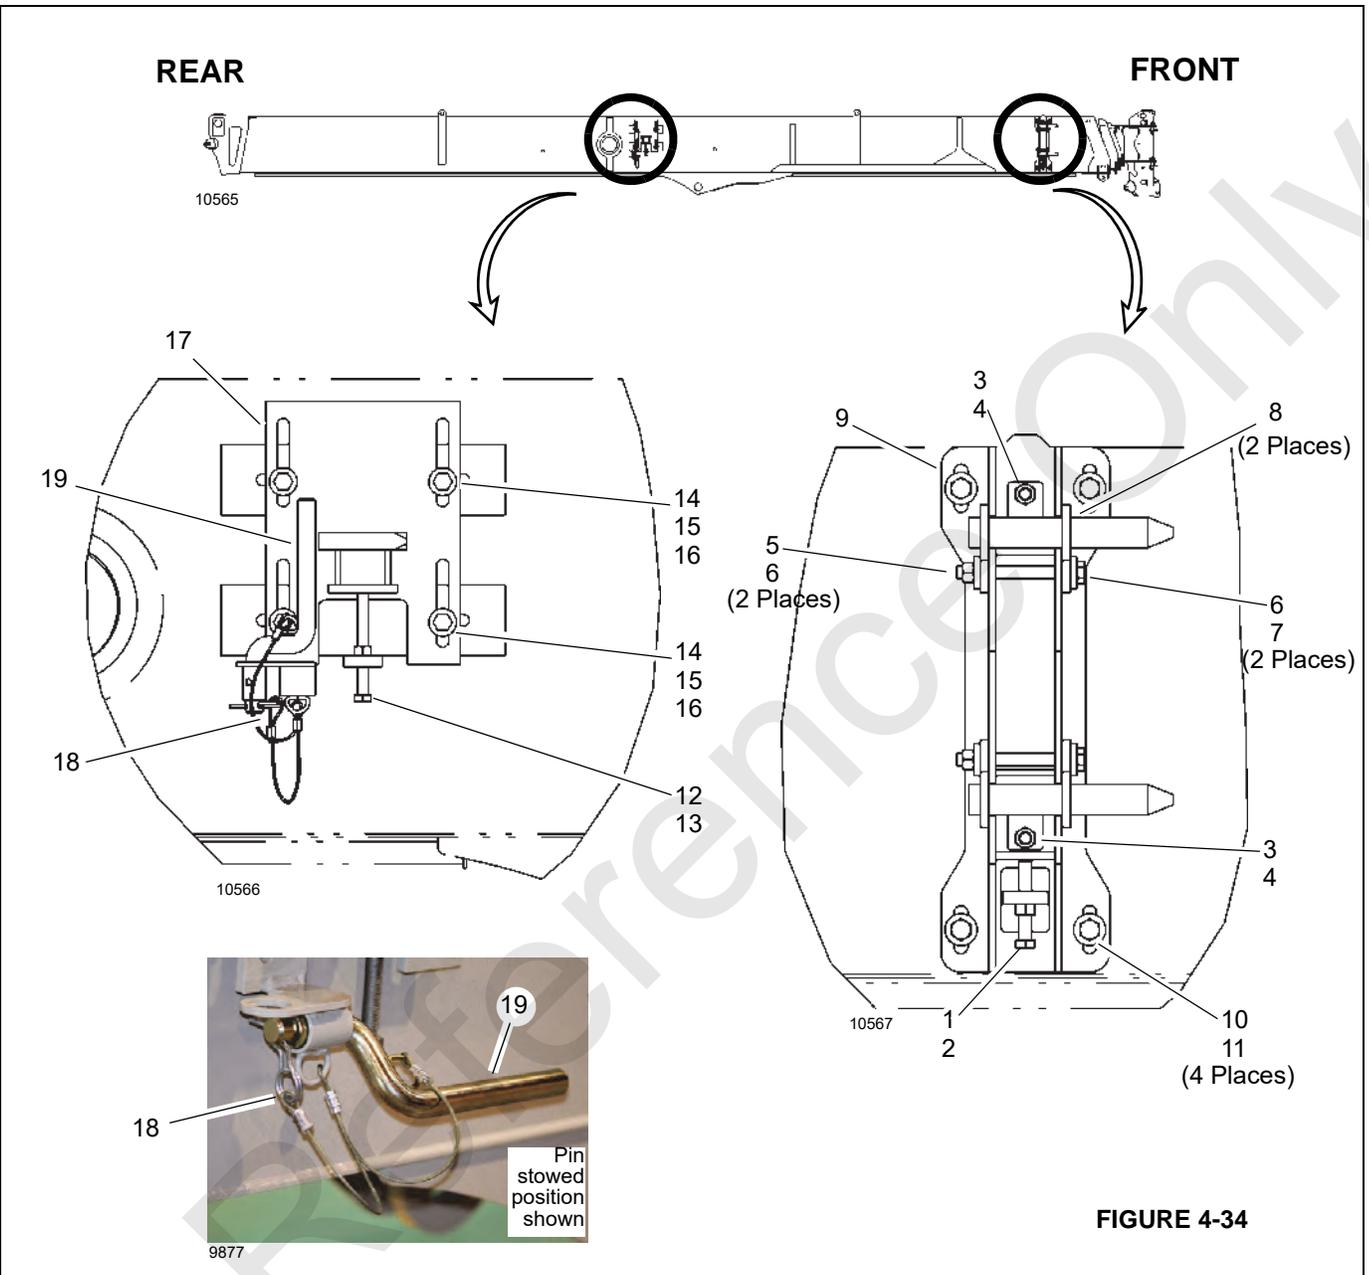
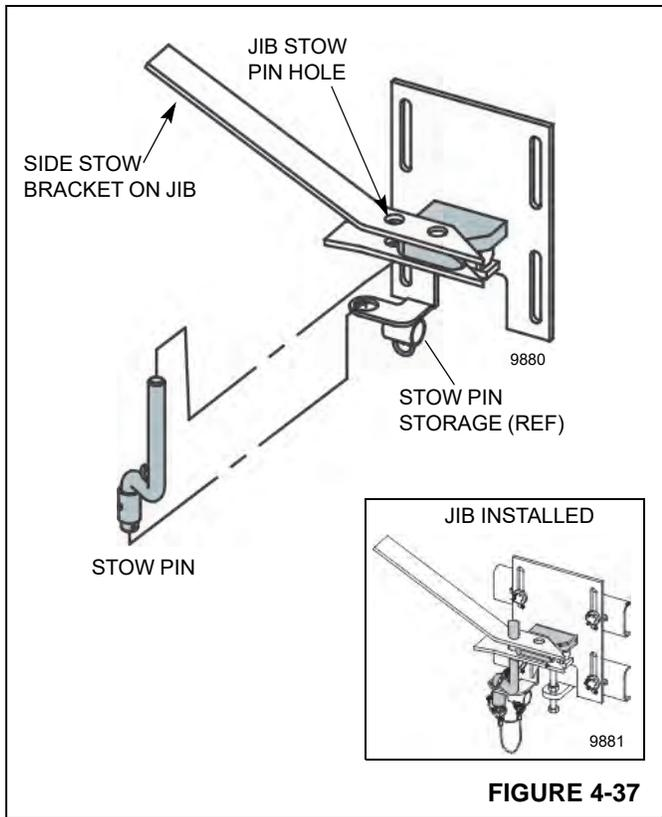

FIGURE 4-34
FIGURE 4-37
2. Loosen hex nut (1, Figure 4-34) and capscrew (2).
3. Remove nuts (3) from captive capscrews (4).
4. Remove nuts (5), washers (6), capscrews (7), and pins (8) from the front bracket assembly (9).
5. Remove capscrews (10), washers (11), and front bracket assembly (9) from the boom base section.
1. Install the front bracket assembly (9, Figure 4-34) using washers (11) and capscrews (10).
2. Install pins (8) on the front mounting bracket (9) using capscrews (7), washers (6), and nuts (5).
3. Install nuts (3) on captive capscrews (4).
4. Tighten nut (1) and capscrews (2) as necessary.
2. If necessary, remove the spring clip (18, Figure 4-34) from stow pin (19). Install the spring clip and stow pin in the stowed position for ease of removal.
3. Loosen capscrew (12) and nut (13).
4. Remove capscrews (14), washers (15), plate (16), and rear jib mount assembly (17).
1. If necessary, remove the spring clip (18, Figure 4-34) from pin (19). Install the spring clip and stow pin in the stowed position for ease of installation.
2. Install the plate (16) and rear jib mount assembly (17) using washers (15) and capscrews (14).
3. Tighten capscrew (12) and nut (13) as necessary.
- a. Loosen capscrews (14, Figure 4-34).
- b. Adjust capscrew (12) and nut (13) as necessary to adjust the height of the bracket.
- c. Tighten capscrews (14).
- a. Loosen capscrews (10, Figure 4-34).
- b. Adjust capscrew (2) and nut (1) as necessary to adjust the height of the bracket.
- c. Tighten capscrews (10).
- a. Loosen nuts (5, Figure 4-34).
- b. Adjust nuts (3) as necessary to adjust the horizontal position of the bracket pin (8).
- c. Tighten nuts (5).
5. Slowly retract the boom until jib mounting brackets seats on the rear base boom section. Install the stow pin (Figure 4-37). Make sure the stow pin is aligned and properly seated in the stow hook on the rear jib mounting bracket. Adjust the rear and front jib mounting brackets as necessary for proper alignment.
Make sure the jib is securely seated on the rear jib mounting bracket with the stow pin (Figure 4-37) properly installed before removing the jib pins (Figure 4-35). Failure to properly secure the jib during stowing and erecting may allow the jib to fall. Serious personal injury or death could result.
Make sure the jib pins are securely installed in the upper and lower jib holes on the boom tip (Figure 4-35) before removing the stow pin from the rear jib mounting bracket (Figure 4-37). Failure to properly secure the jib during stowing and erecting may allow the jib to fall. Serious personal injury or death could result.
15. Slowly retract the boom until jib mounting brackets seats on the rear base boom section. Install the stow pin (Figure 4-37). Make sure the stow pin is aligned and properly seated in the stow hook on the rear jib mounting bracket.